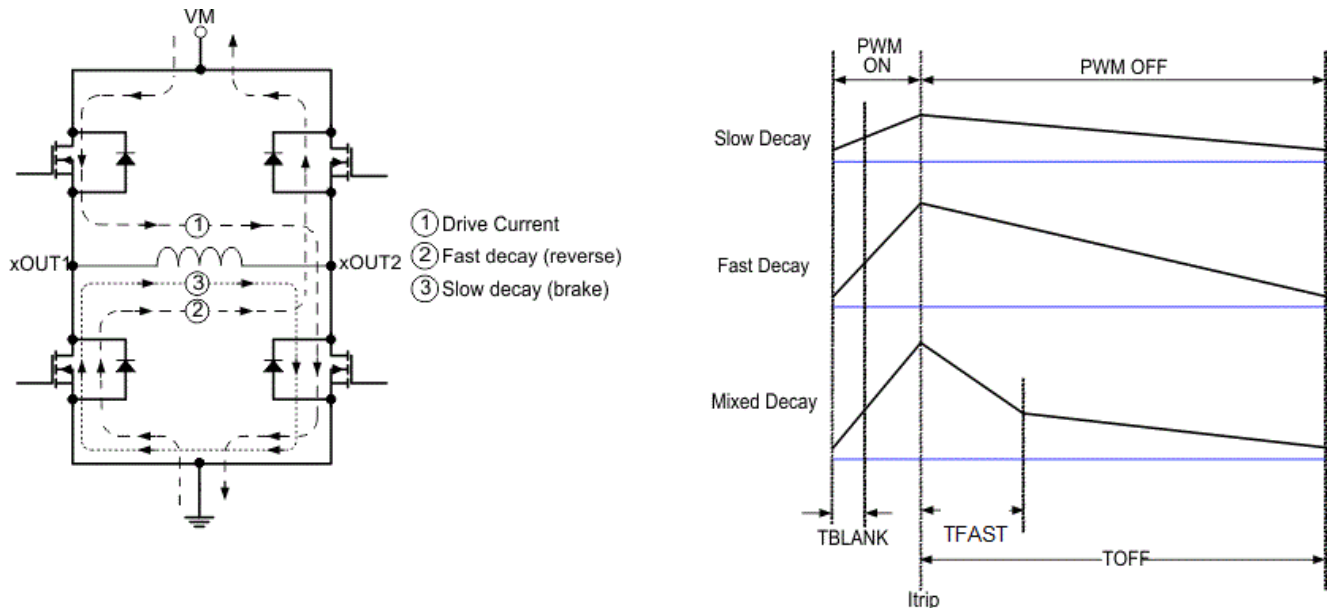

Figure 7-6. Decay Modes
During PWM current chopping, the H-bridge is enabled to drive through the motor winding until the PWM current chopping threshold is reached. This is shown in Figure 7-6, Item 1.
Once the chopping current threshold is reached, the H-bridge can operate in two different states, fast decay or slow decay. In fast decay mode, once the PWM chopping current level has been reached, the H-bridge reverses state to allow winding current to flow in a reverse direction. Fast decay mode is shown in Figure 7-6, item 2. In slow decay mode, winding current is re-circulated by enabling both of the low-side FETs in the bridge. This is shown in Figure 7-6, Item 3.